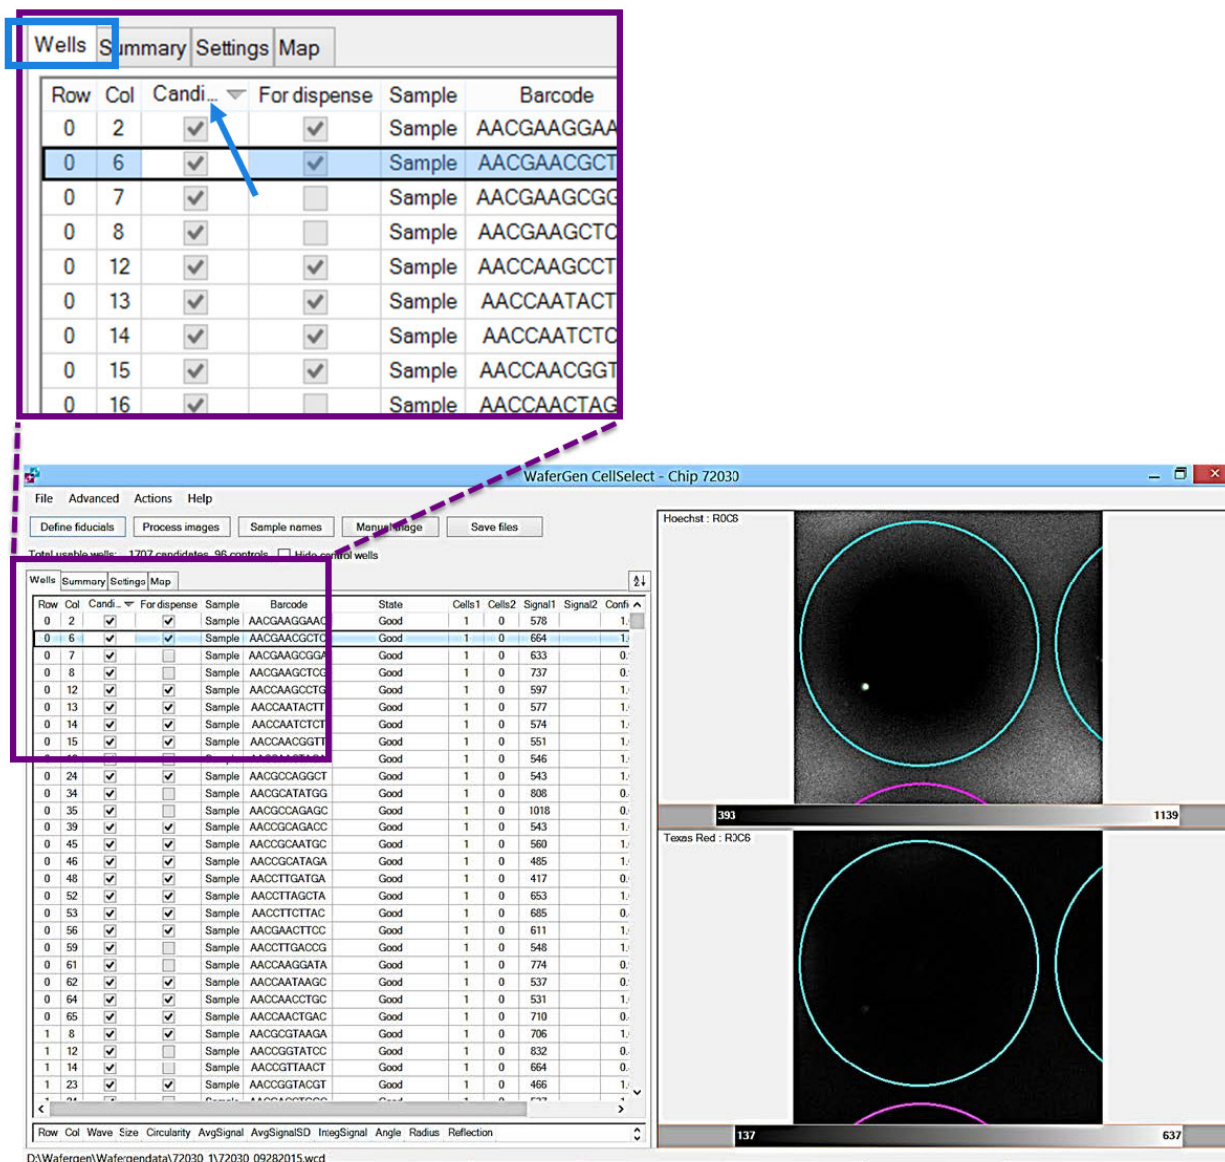

Figure 14. Sorting the Candidate column to consolidate all selected nanowells to the top of the table.
1. Click the **Wells** tab and sort the nanowell statistics in the Candidate column by clicking the **Candidate** heading (see Figure 14, below). The software will sort and consolidate all selected nanowells to the top of the table.
2. Click any row for closeup views of the selected nanowell using DAPI (top) and Texas Red (bottom) filters. In Figure 14 (above), the selected nanowell is located in Row 0/Column 6 of the imaged chip.